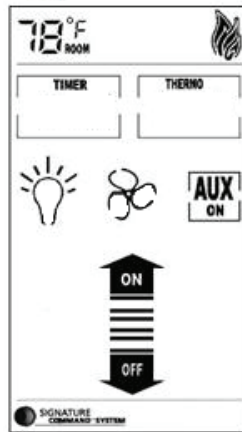

Figure 46
4. During the 10 seconds, press the OFF button on the transmitter to learn. Another two beeps will be given to confirm a successful learning. *Figure 46*
Manual Mode*Figure 46*